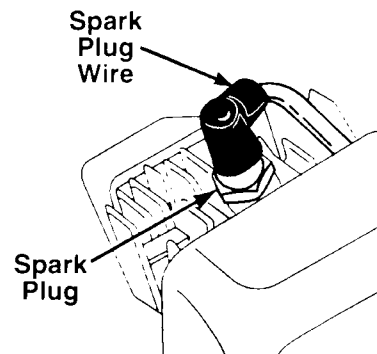

FIGURE 12A
3. Disconnect wire from the spark plug and remove the plug. See figure 12A.